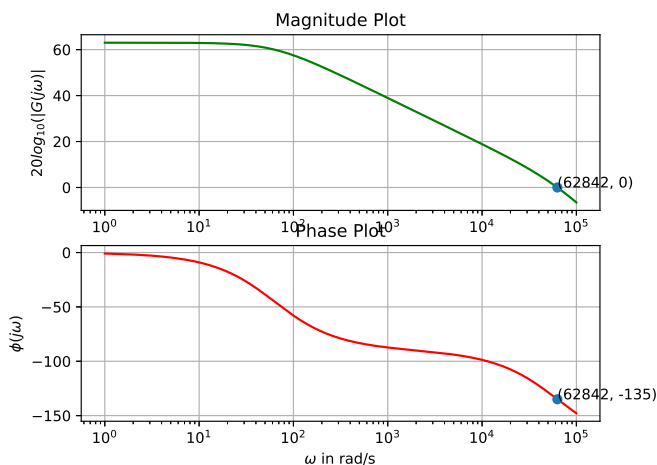

Fig. 10
**Solution:** The following code plots Fig. 10.